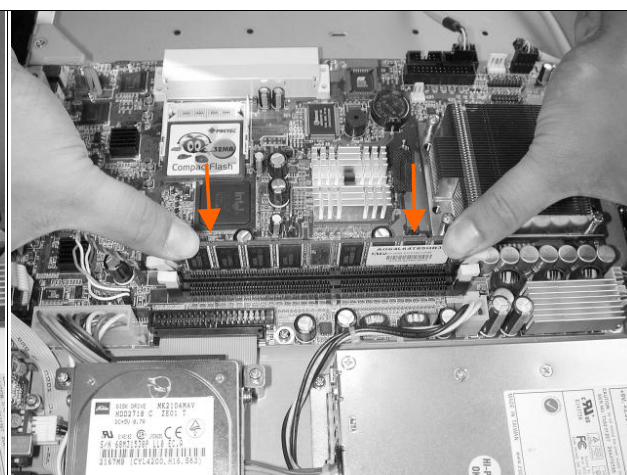

Fig. 2-4
2. Press down gently on both left and right edges of the module (**Fig.2-4**) until it "clicks".